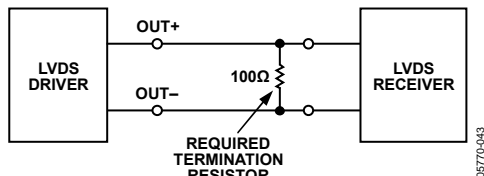

Figure 41. LVDS Requires Far End Termination
- Reduced kickback noise: LVDS outputs are current output stages requiring a 100 Ω terminating resistor at the receiver, differing from CMOS outputs that generally do not require termination (see Figure 41).